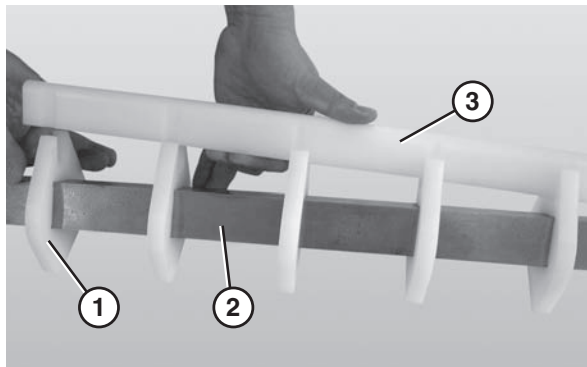

Figure 84
1. Slide the nose bar pucks (**Figure 84, item 1**) onto the nose bar drive post (**Figure 84, item 2**).
2. Attach the nose bar wear strip (**Figure 84, item 3**).